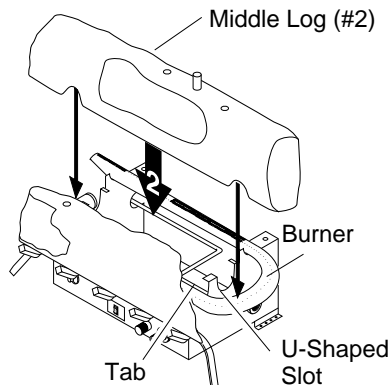

Figure 27 - Installing Middle Log (#2)
2. Place the base of the middle log (#2) in the U-shaped slots of the grate base. The cutout on the right of the middle log should fit over the burner (see Figure 27). Make sure the front of the middle log is resting on the tabs of the grate base.